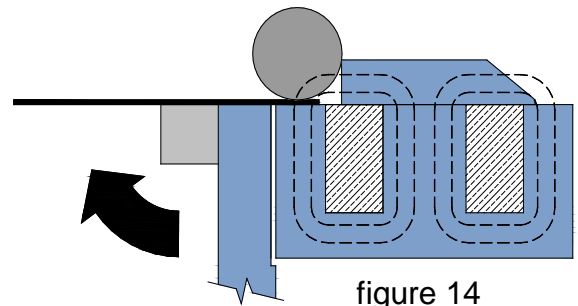

figure 14
- 1) Position the clamping bar and the round bar as in (fig. 14) to ensure that the piece part is positioned correctly. Energize the electromagnet.